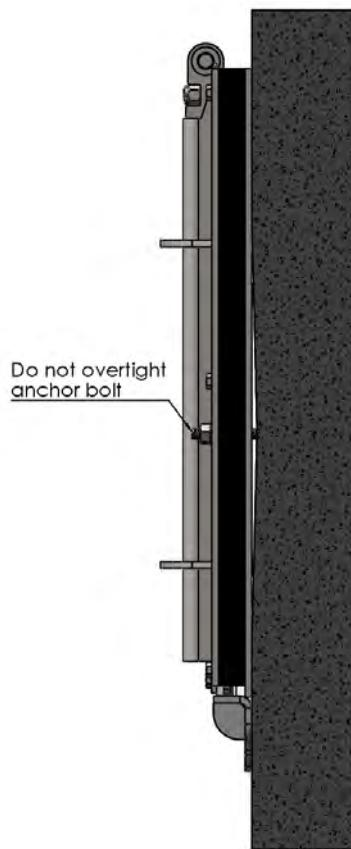

Figure 5
**CAUTION!**: If the slide gate is not completely in contact with the wall, do not over-tighten the anchor bolts. Over tightening may bend or distort the frame. If the wall flatness and levelness is according to the specified standards, the construction sealant will fill in the remaining void (see Figure 5).